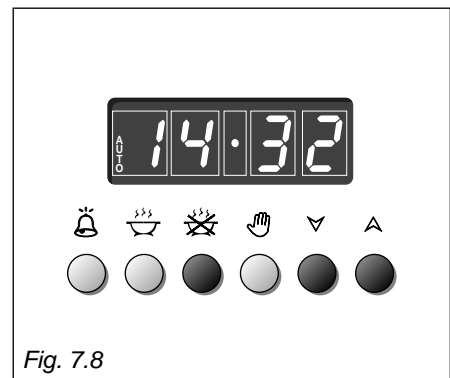

Fig. 7.8
2. Set the time you need the food to stop cooking by pushing the  button and the  button to advance, or  to go backwards if you have passed the desired time (Fig. 7.8).